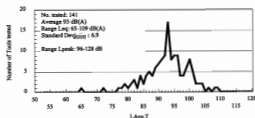

Figure 1. Distribution of noise levels for carpenters.
From the example of results shown in Fig. 1, it is interesting to note the large number of tools and equipment used which generate noise levels above 85 dB(A) and the dominance of noise sources with levels above 93 dB(A). Using the equal energy principle (3 dB exchange rate) and assuming a 94dB(A) noise level from tools, a carpenter's allowable daily noise exposure of 85dB(A) would be exceeded in only 1 hour of work with these tools. As one hour of tool work could not be considered unusual in an 8 hour day, it is important that a specific "safe system of work" is implemented in such areas.
Results in the form of Fig 1 and Table 1 were compiled for each area. Due to space limitations of this article, all the data relating to the measurements is available from the authors as an addendum. This addendum of 8 pages provides the above information for each occupational group shown in Table 2.